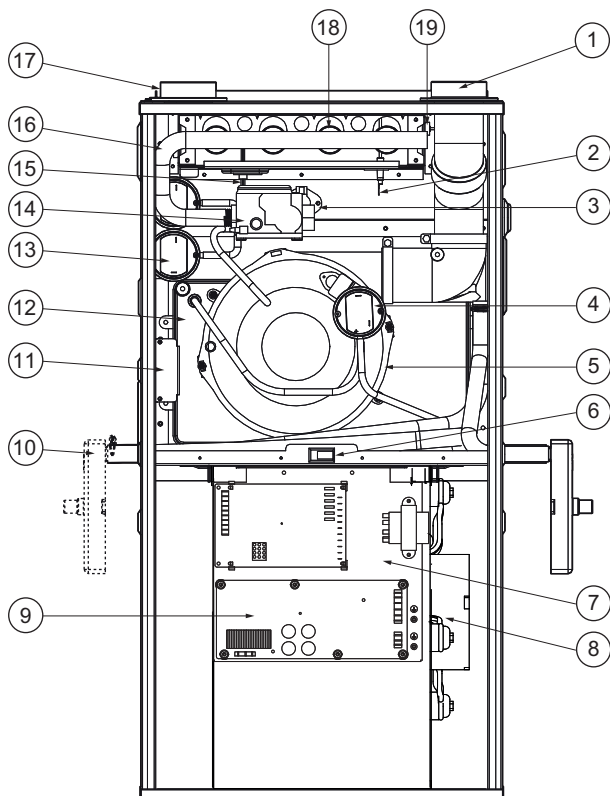

Fig. 14-1 Component Identification
- Parts are available from your distributor. (See Fig.14-1)